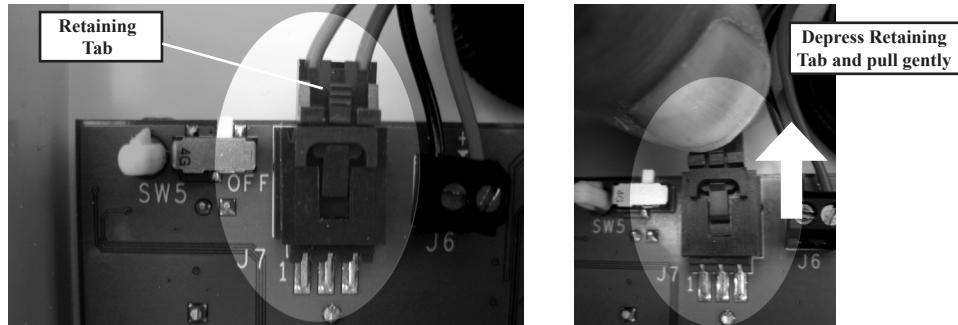

Figure 6 Disconnecting the Battery from the Control Board
- d. Disconnect the battery cable from the Alarm Circuit Board (J7). Gently depress the retaining tab of the connector and pull the connector free (see Figure 6).